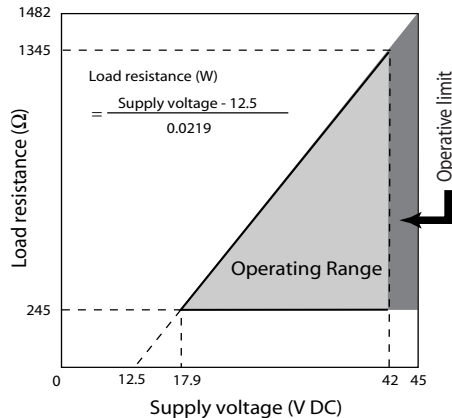

Figure 3 *Supply voltage vs. load resistance characteristics*
17.9 to 42V DC. Reverse polarity protection is standard. A load resistance of 250 Ω or more is necessary between loops. See Figure 3.